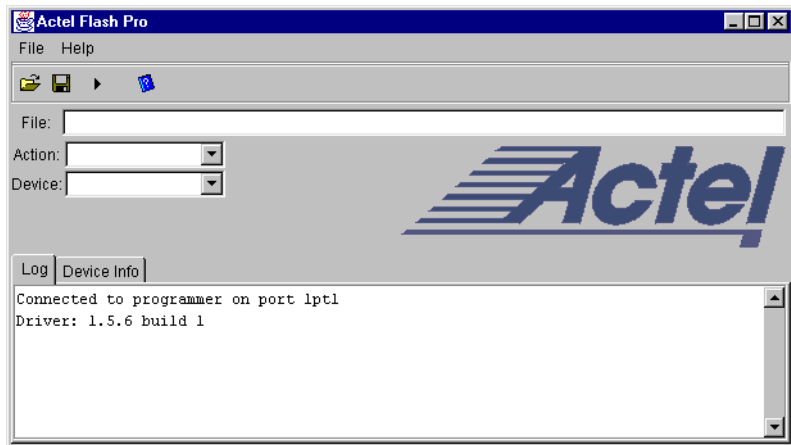

Figure 2-2. Flash Pro: Successful Connection
- 5. **Click Connect.** A successful connect or any errors appears in the Log window, as shown in Figure 2-2. If you encounter failures, please refer to “Error Messages & Trouble Shooting Tips” on page 33.